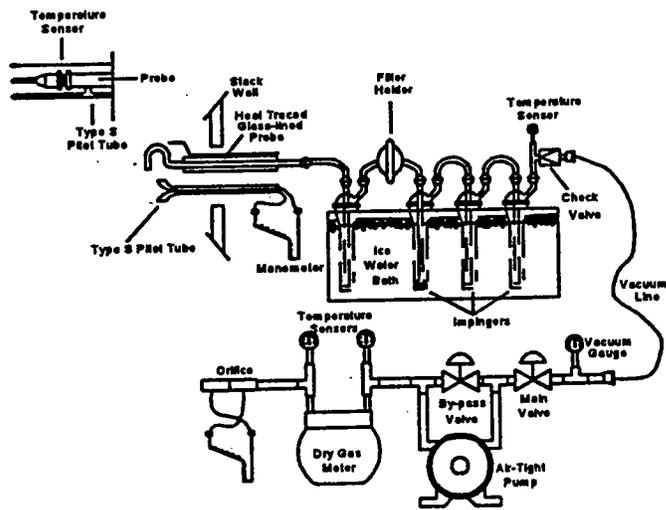

Figure F8-1. Sulfuric Acid Mist Sampling Train.
3. Prepare the collection train (Figure F8-1.) as follows: